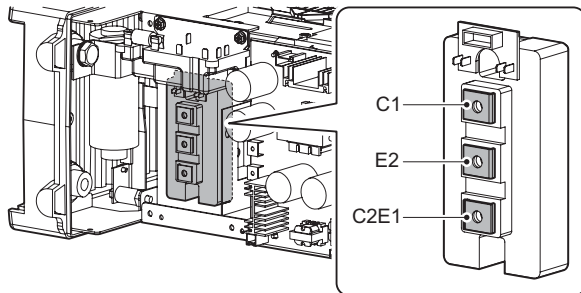

Figure 10-17: Tester checkpoints in the Q13
- 3) Refer to Table 10-8 and Figure 10-17 for the checkpoints on Q13.